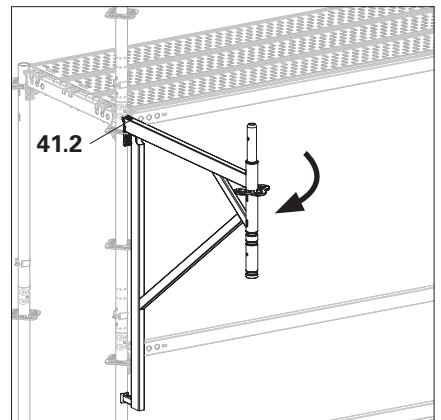

Fig. A6.03a
2. Hold the wedge (**41.2**) up, and swing the console bracket outwards. The formwork half (**41.1**) must rest against the vertical tube. (Fig. A6.03a)